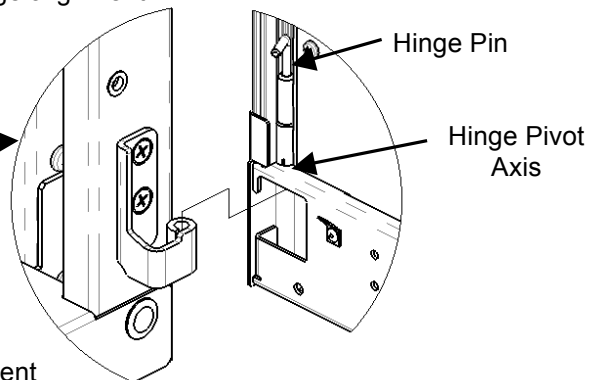

Fig. 3
4. Carefully lower the door onto the lower hinge. Be sure that the hinge pin aligns correctly with the hinge pivot axis in the door frame (Fig. 3).